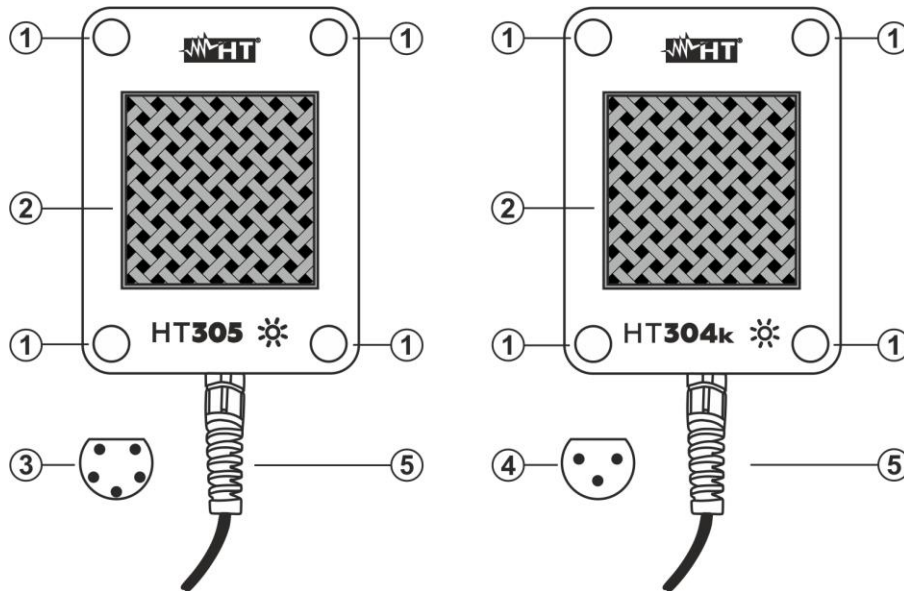

Fig. 1 Accessory description
4. Connect the connection cable's connector (**5 poles** for **HT305** or **3 poles** for **HT304k** – see Fig.1 – parts 3 and 4) to the remote unit SOLAR03 (HT305) or to the remote unit SOLAR-02 or to Master instruments with 3-pole HT connector (HT304k).